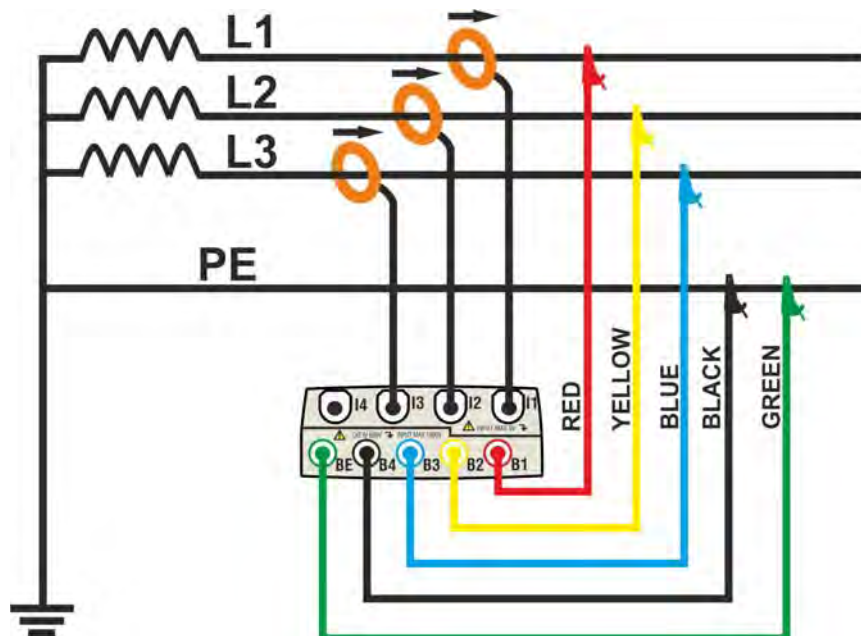

Fig. 119: Meter connection in a three phase 3-wire system – ENG_UK type
2. Connect voltage test leads on Phases L1, L2, L3, and Ground cables respecting the colours as shown in Fig. 119. **Verify the result “123” at display relative to a correct phase sequence indication** (see § 5.2.1) and perform the corrections if necessary.
3. Connect the transducer current clamps on Phase L1, L2, L3 cables as shown in Fig. 119 respecting the clamp's arrow direction indicating the current standard sequence from generator to load. **On Real Time Values' section screens always verify the positive value of Active Power and the power factor relative to load which should be normally inductive** before starting a recording. Reverse the clamp by 180 degrees on cables in case of negative readings.